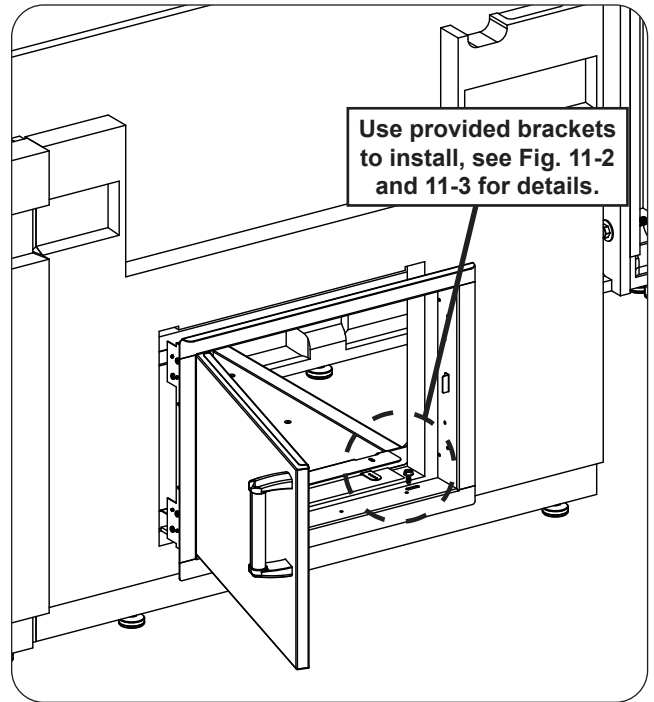
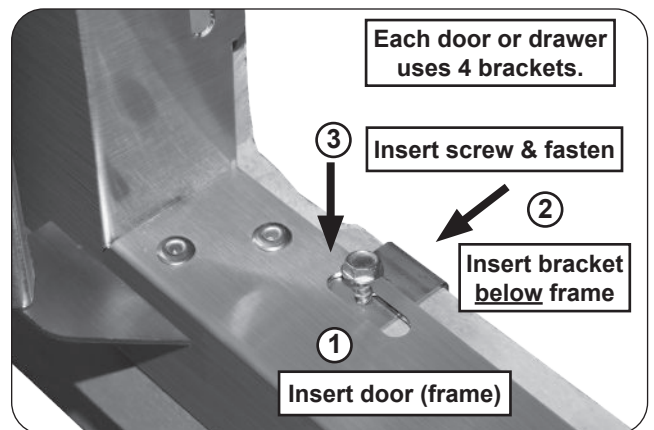
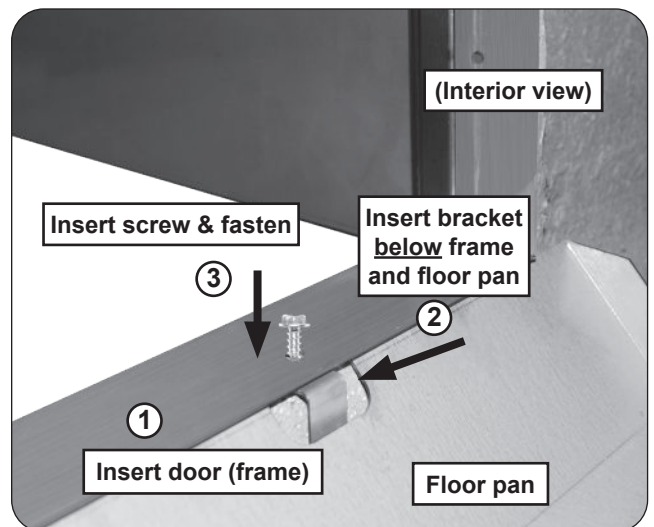

Fig. 11-1 Door / drawer install
Fig. 11-2 Door / drawer install detail
Fig. 11-3 Door / floor pan install detail
1. Insert your unit completely into the appropriate opening. Ensure it is flush against the exterior wall (see Fig. 11-1 and Fig. 11-2, step 1).
2. The unit will have 2 oblong cutouts (or round holes) on both the top and bottom of its frame. Reach from within the island and insert a bracket where a cutout exists, **below the frame**. See Fig. 11-2, step 2.
Note: When installing the double door ensure the bracket is inserted **below the frame AND floor pan** (see Fig 11-3, step 2).
3. While squeezing the rear of the bracket and the front of the door frame **firmly** against the concrete wall, insert a hex screw and tighten with the power drill and 5/16" hex driver (see Fig. 11-2 or Fig 11-3, step 3). **DO NOT OVERTIGHTEN.**